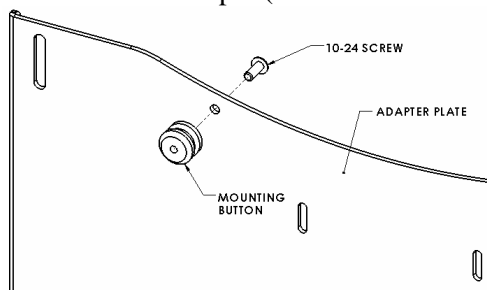
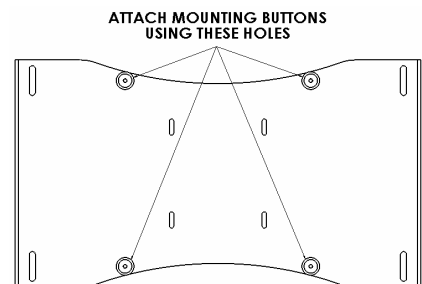

Figure 2
Figure 3
**1. Chief Q-latch Button Installation (Used with mid range Q-latch mounts):** Using a 10-24 button head cap screw inserted from back side of bracket, secure mounting button, with chamfered hole of mounting button (larger surface) facing bracket, bracket (four places) (see Figure 2 & Figure3).